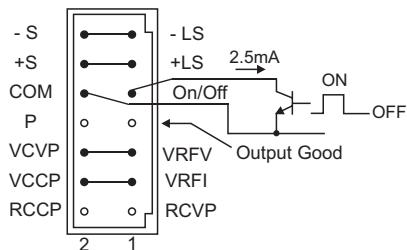
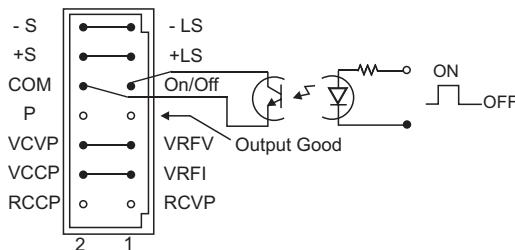

Fig. 4-3: ON/OFF Control, references to - Sense.
Fig. 4-4: Floating ON/OFF Control (ZUP rear panel view)
Contacts 9, 10 at the rear panel External Control connector (fig. 4-2, item 4) serve as ON/OFF terminals. Either short circuit or TTL '0' level enables the power supply output and open circuit or TTL '1' level disables the power supply's output. An open collector transistor can be used for the ON/OFF control as shown in fig. 4-3, with sink current ability of more than 2.5mA. Please note that pin 10 (COM) is internally connected to the - Sense potential, therefore for floating ON/OFF Control a photocoupler should be used as shown in Fig. 4-4.